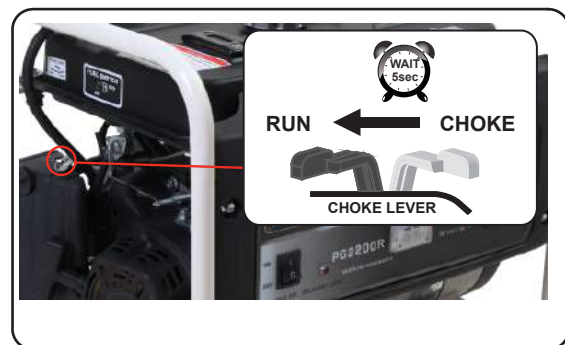

Fig 10
- Let engine run for several seconds and then gradually, as engine warms up, slide the choke lever towards the “RUN” position until the choke is fully at the “RUN” position. (See fig 10)